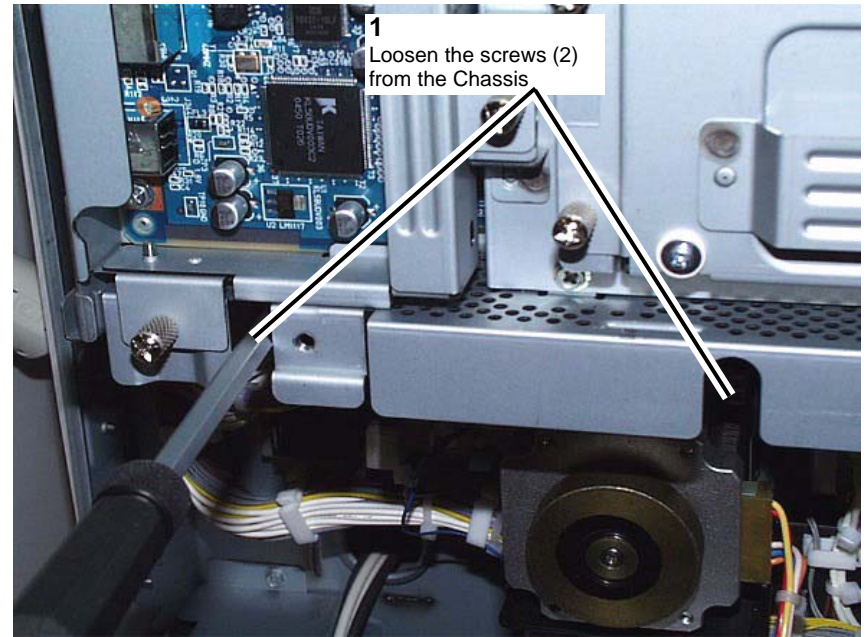

Figure 8 Loosen the screws (2) from the ESS PWB Chassis
10. Loosen the Lower screws (2) from the ESS PWB Chassis. (Figure 8)